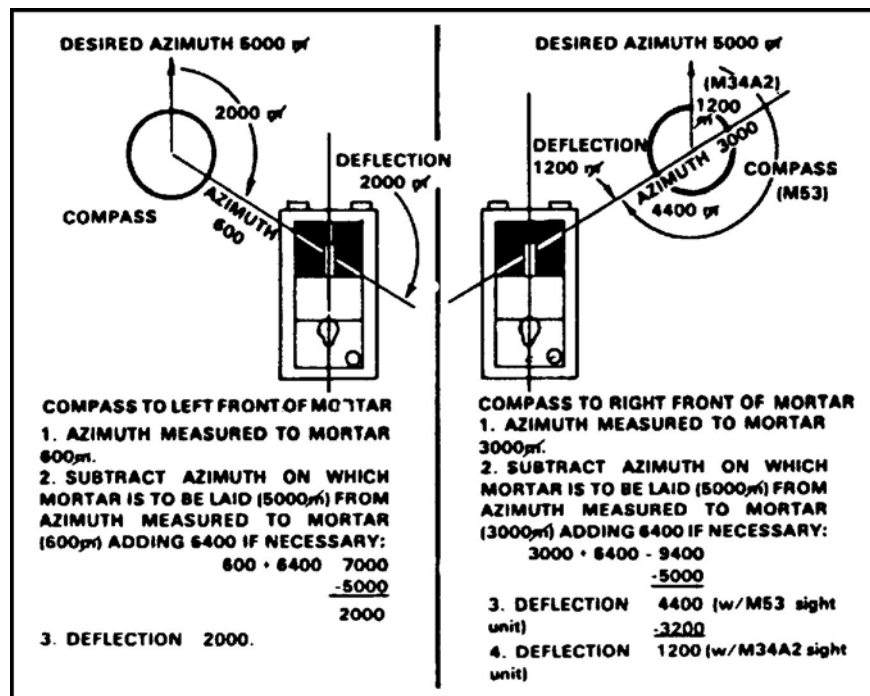

Figure 1. Determining deflection.
- (1) Measures the grid azimuth to the base mortar.
- (2) Subtracts the grid azimuth on which the mortar is to be laid from the grid azimuth to the mortar (adding 6400, if necessary).
- (3) Announces the remainder of the grid azimuth as, "Deflection," (subtracting 3200, if necessary, when using the M34A2 sight; Figure 1).
- b. The gunner sets the announced deflection on his sight and lays on the aiming point--the compass (Figure 1). He centers the traversing assembly slide, and then centers the mortar to